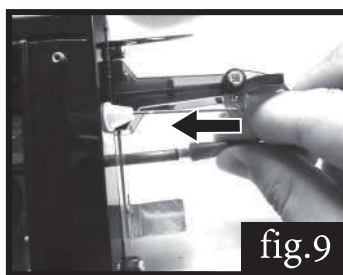

fig.9
9. Add lubrication oil to the tail of main shaft tube, fig. 9.